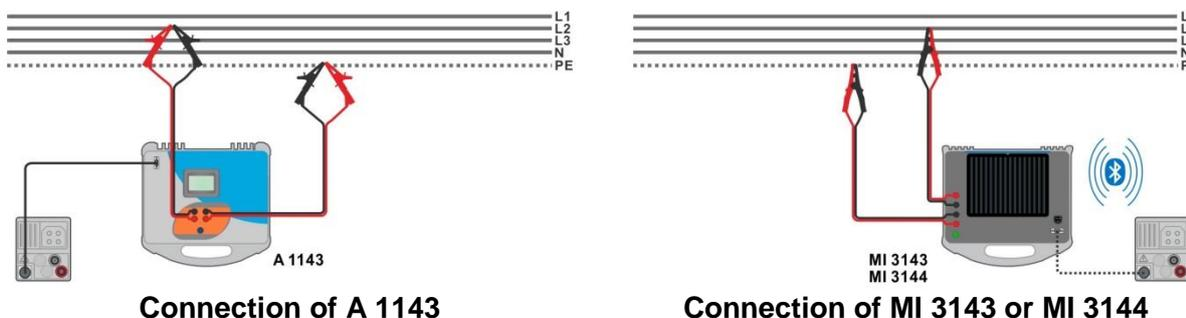
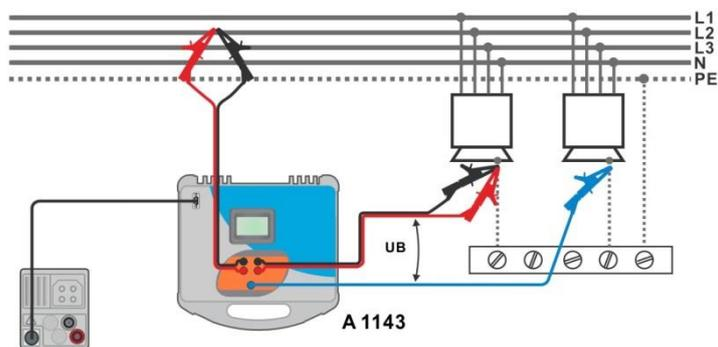

Figure 7.40: High precision Loop impedance measurement
Figure 7.41: Contact voltage measurement – Connection of A 1143
- ▶ Connect MI 3152(H) instrument with A 1143, MI 3143 or MI 3144 Euro Z adapter / instrument via serial RS232 or pair them using Bluetooth communication. See chapter 4.6.5.1 Configuration of measuring adapters.
- ▶ Check Bluetooth communication active sign if MI 3143 or MI 3144 Euro Z instrument is connected to MI 3152(H) instrument via Bluetooth communication.
- ▶ Connect test leads to the object under test, see Figure 7.40 and Figure 7.41.